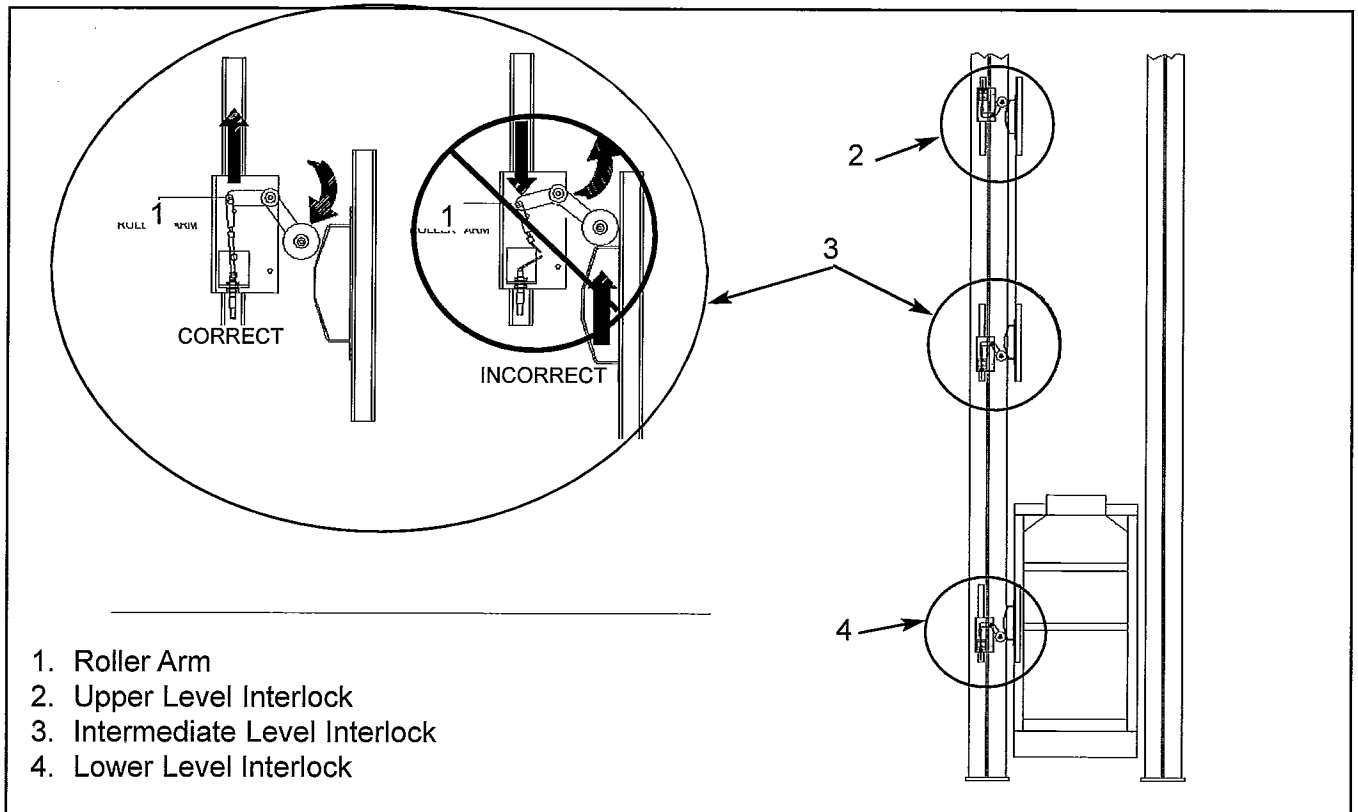

Figure 7
1. The position of the roller on the cam is very important. The roller must roll freely on the cam incline. See Figure 7.
Only on the intermediate levels, the cam will hit the roller arm going in both directions, so alignment is important. See Figure 7.